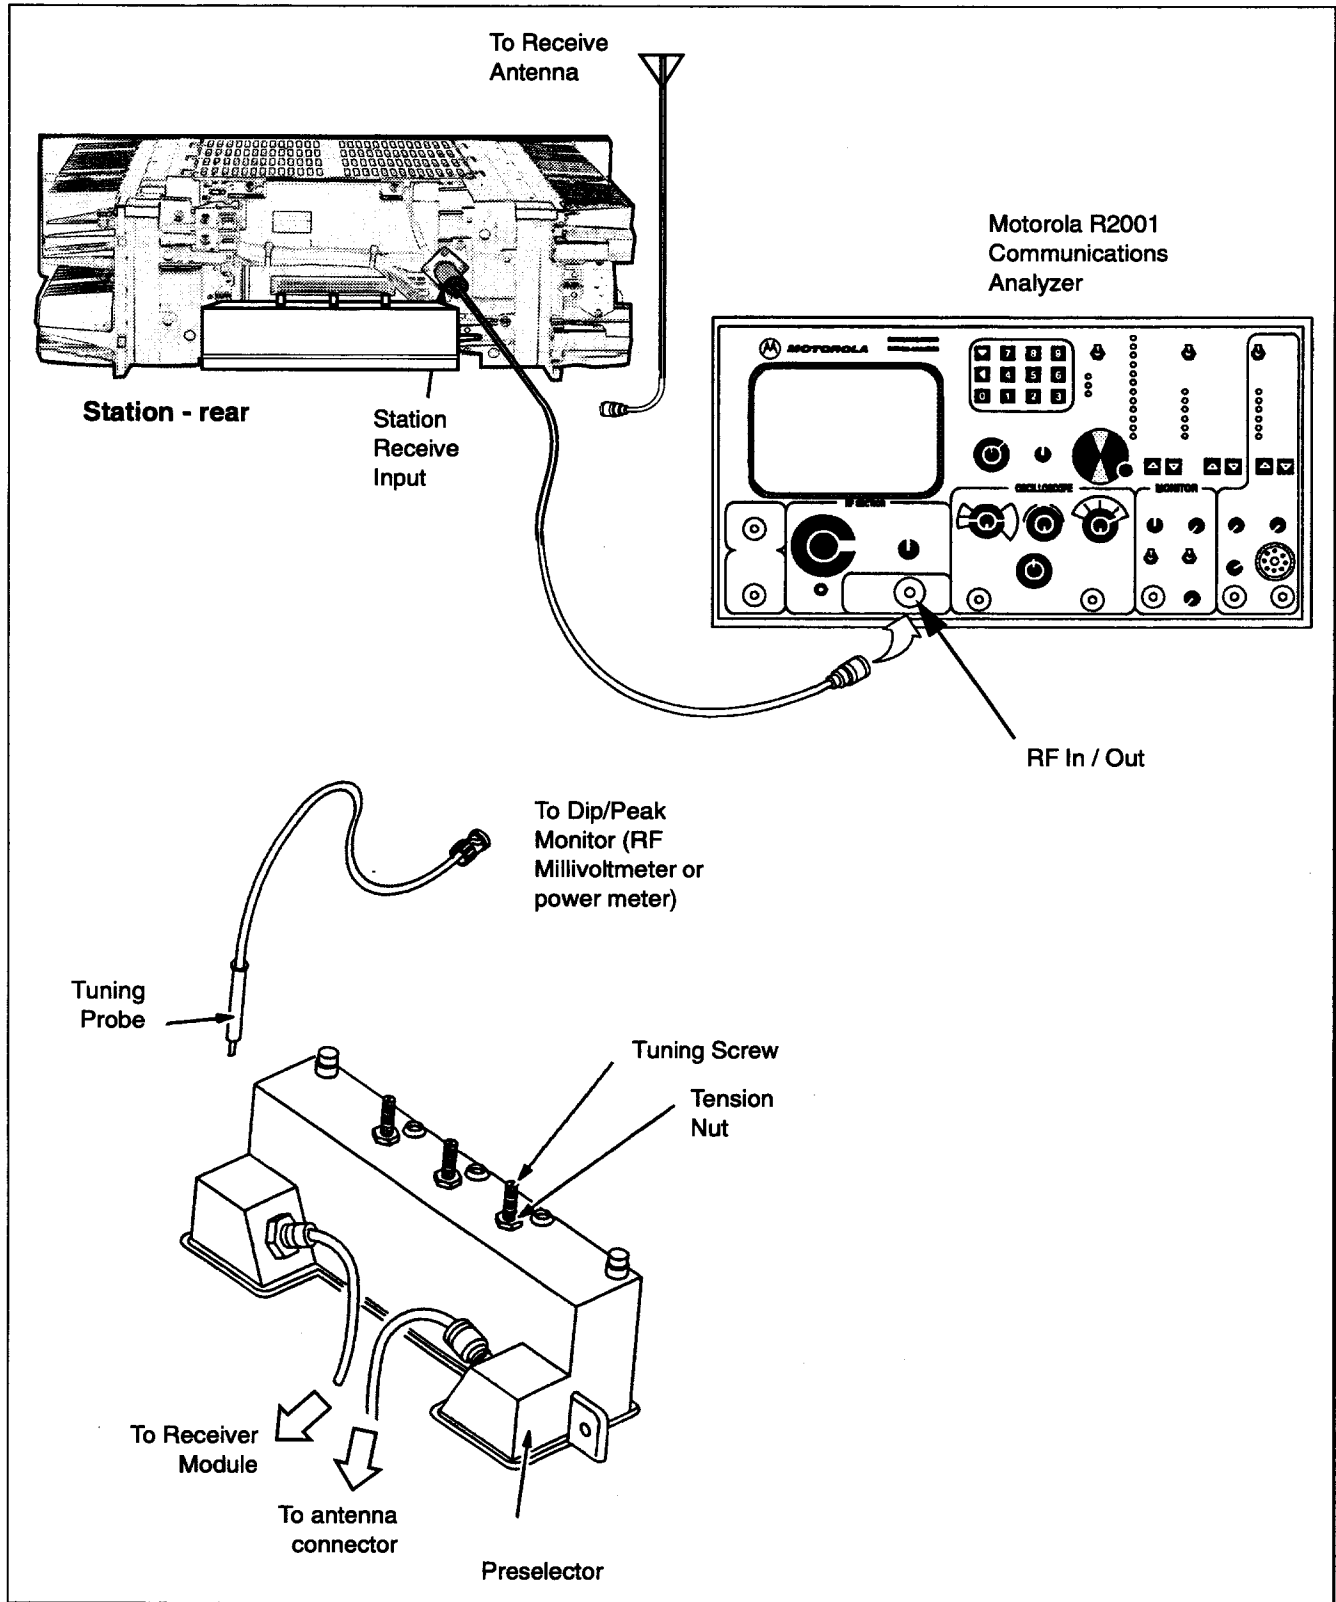

Figure 8. Test Equipment Setup for External Preselector Field Tuning
5. Connect the test equipment as shown in Figure 8.